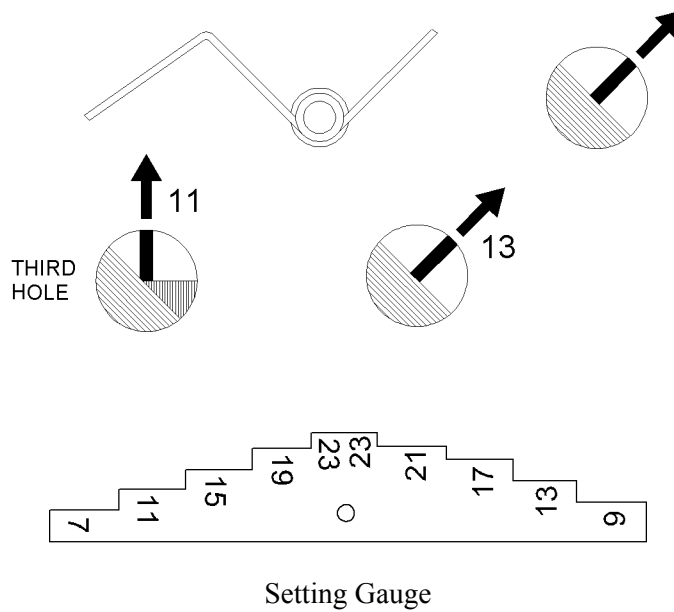

Figure 11. Setting the Spreader Adjustment Holes
- (1) Loosen the rate adjustment knob at the rear of the hopper. Insert the #13 position on the calibration gauge into the center adjustment hole, oriented as shown in Figure 11. Pull the spreader operating lever back until the shutoff plate touches the gauge.
- (2) Adjust the rate control arm in the rate control bracket to touch the shutoff plate stop. Tighten the rate adjustment knob. Remove the gauge.
- (3) Place the spreader operating lever at the CLOSED position, then, return it to the OPEN position. Verify the gauge fits snugly in the hole at the #13 gauge position. Repeat the setting process, if necessary.
- (4) Without changing the rate control arm setting, place the operating lever at the OPEN position. Insert the #11 position on the gauge, oriented as shown in Figure 11, in the third-hole right side pattern adjustment hole (left-hand hole). Move the third-hole remote adjustment lever (left-hand side of the hopper) so that the slide plate just contacts the gauge. Move the memory lock (grey sliding piece) until it pops into the lever and locks its position. Remove the gauge.
- (5) Place the third-hole remote adjustment lever at the OFF position, then, return it to the memory lock position. Verify the gauge fits snugly in the hole in the #11 gauge position. Repeat the setting process, if necessary.
- (f) The distribution ratio should be approximately equal to that shown graphically in Figure 11, and by percentage in Table 3, with the shaded area of the table the most important. The unshaded area of the pattern receives negligible product distribution.